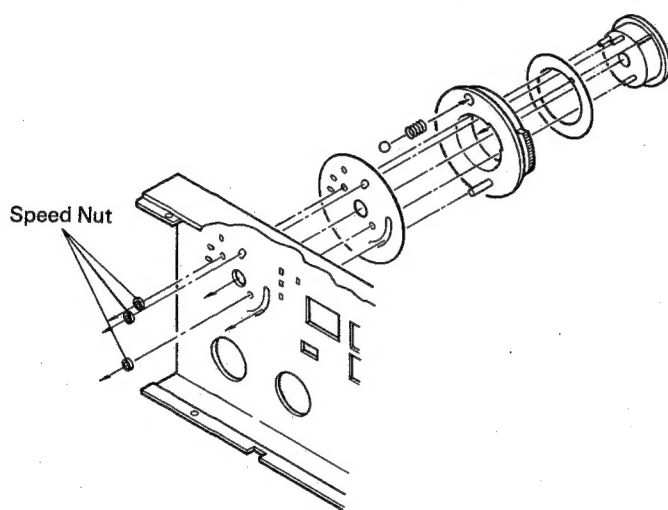

Fig. 15
3. Holding the Gm Selector knob assembly on the front panel to prevent it coming apart (ball bearing, etc.), remove 3 speed nuts and then the Gm Selector knob (Fig. 15).